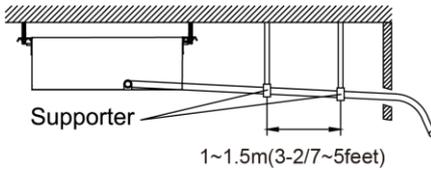

Fig. 4.22
- (3) When the hose is long, install supporters (Fig. 4.22).
- (4) Always use the drain hose which has been insulated properly.